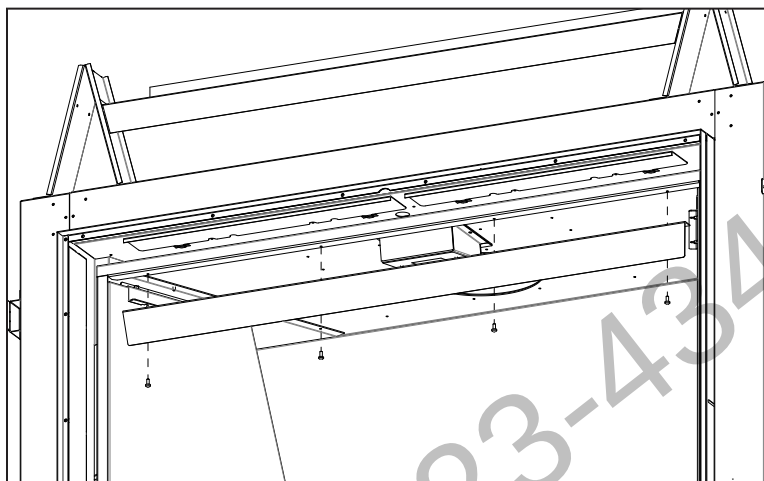

Figure 73: Light Deflector Removal
- Step 2.** Remove light deflector by removing the four (4) retaining T-20 screws (see Figure 73).